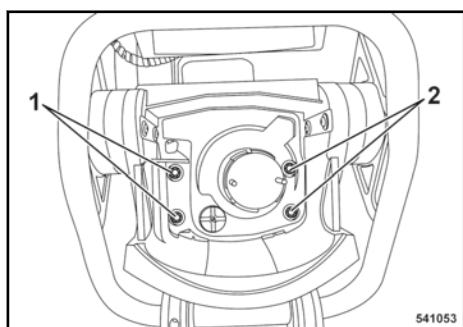

Fig. 48
Unscrew the fastening screws (1) and (2) ↪ Fig. 48 of the air filter housing.